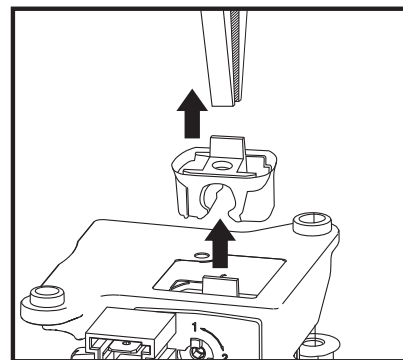

fig. 33- Gas Injector cartridge replacement
- Unscrew (4 x 5mm Allen key bolts) and remove the circulating pump motor assembly of fig. 33 .